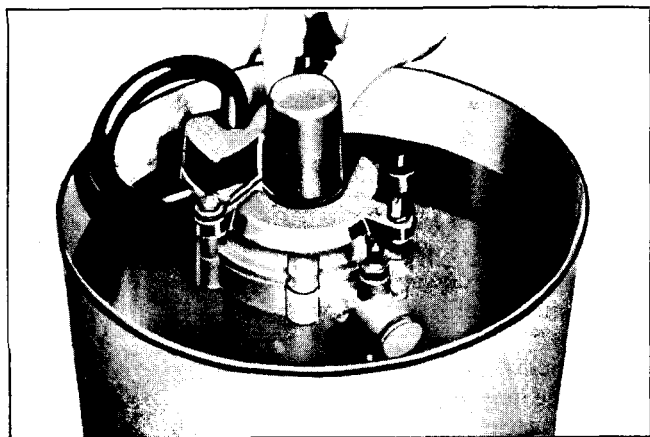

Fig. 4-3 Checking Compressor, Reservoir and Regulator for Leaks
3. Route an 8" piece of rubber hose between vacuum and vent ports (Fig. 4-3).